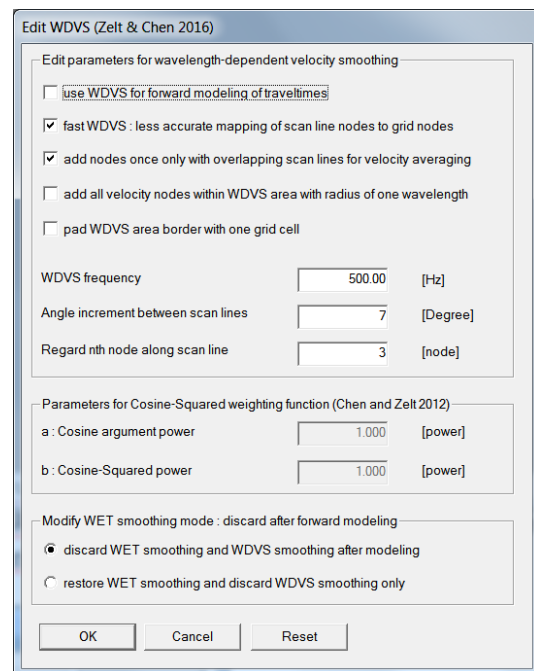

Fig. 11 : *Model|WDVS Smoothing* dialog. Click option ***discard WET smoothing and WDVS smoothing after modeling***. Click *OK*.
- select *Model|WDVS Smoothing*. Click radio button ***Discard WET smoothing*** (Fig. 11). Click *OK*.
Fig. 13 : constant-velocity initial model (left). Steepest-Descent WET inversion after 500 iterations (center) with **discard WET smoothing** checked in *Model|WDVS Smoothing* (Fig. 11).